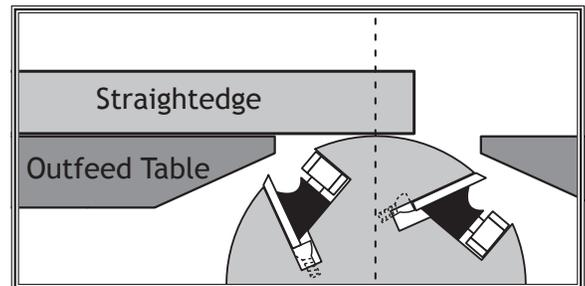

Figure 38. Adjusting outfeed table even with cutterhead body (knife-style cutterhead shown).
4. Rotate motor pulley so that you can access cutterhead body with straightedge between the knives/inserts, as shown in **Figure 38**.